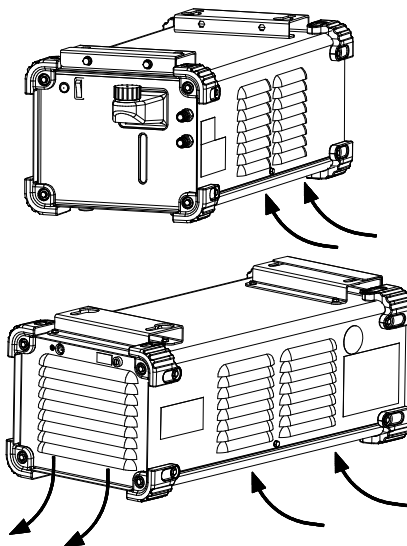

Figure 3.
9. Airflow Slots: Enable proper circulation of air cooling (Figure.3).